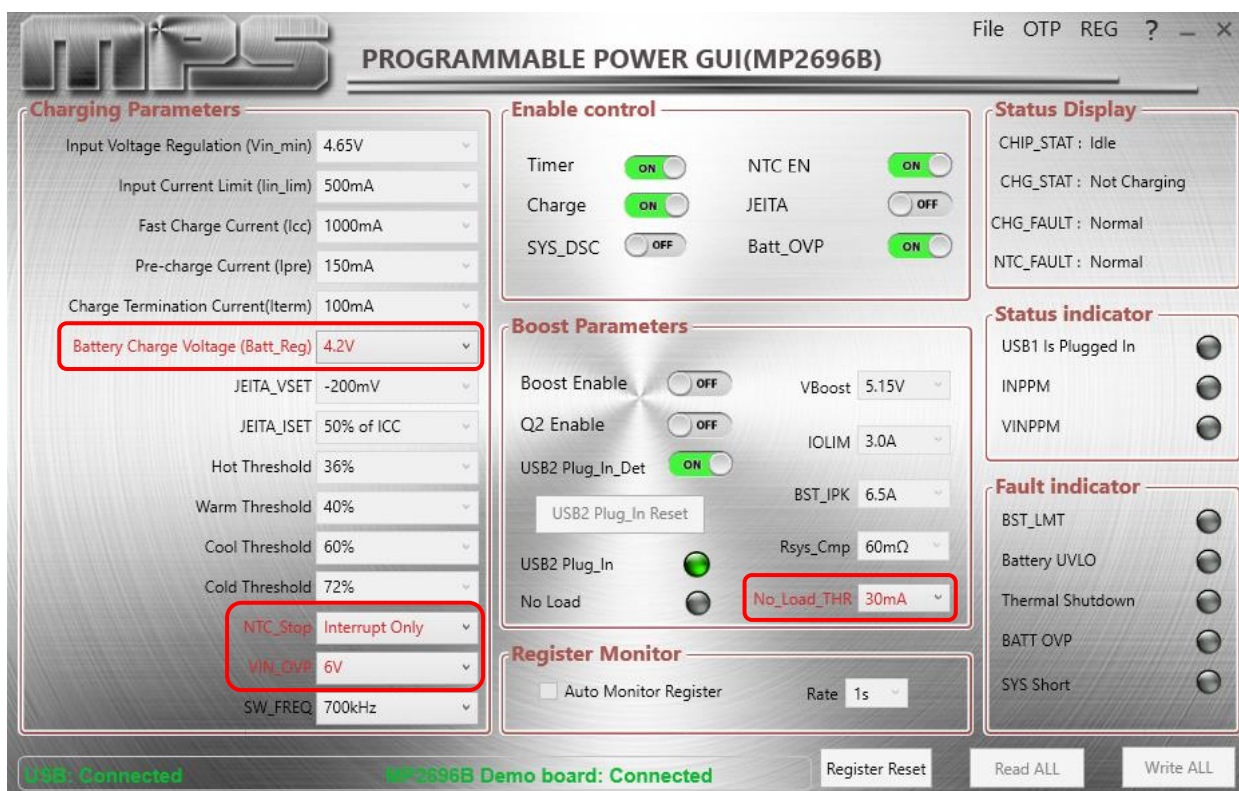

Figure 8: Configurable Parameters in OTP Mode
3. Enter a new table. Changes can be made to the parameters in red (see Figure 8).